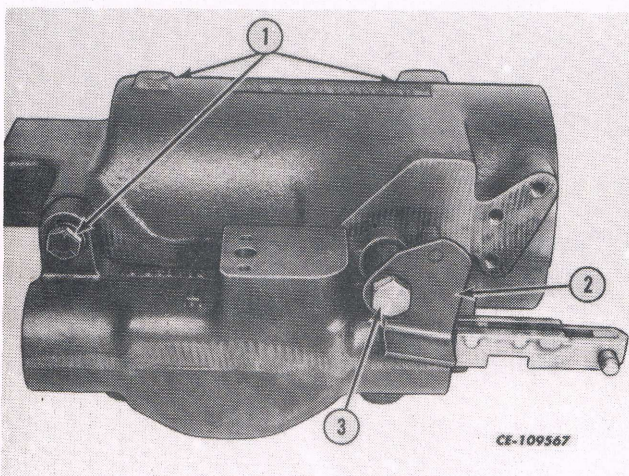

Fig. 35
a. Remove the three capscrews and retarding arm shoulder bolt (3) with draft retarding arm assembly (2) and sealing rings from the draft control cylinder assembly. See Fig. 35.